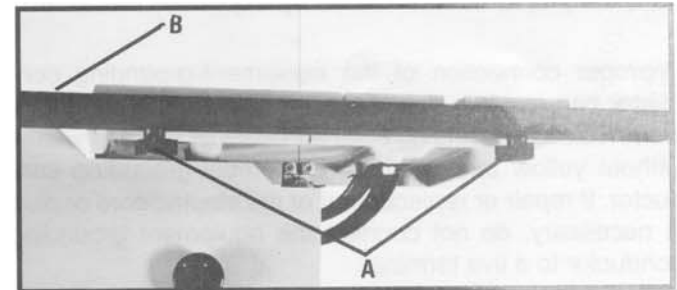

Fig. 8
2. Position guide rail (B) as shown in Fig. 8, against clamp knobs (A) and tighten clamp knobs.